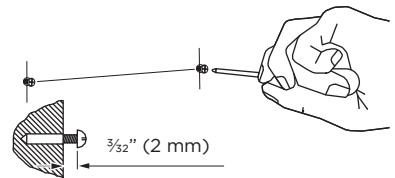
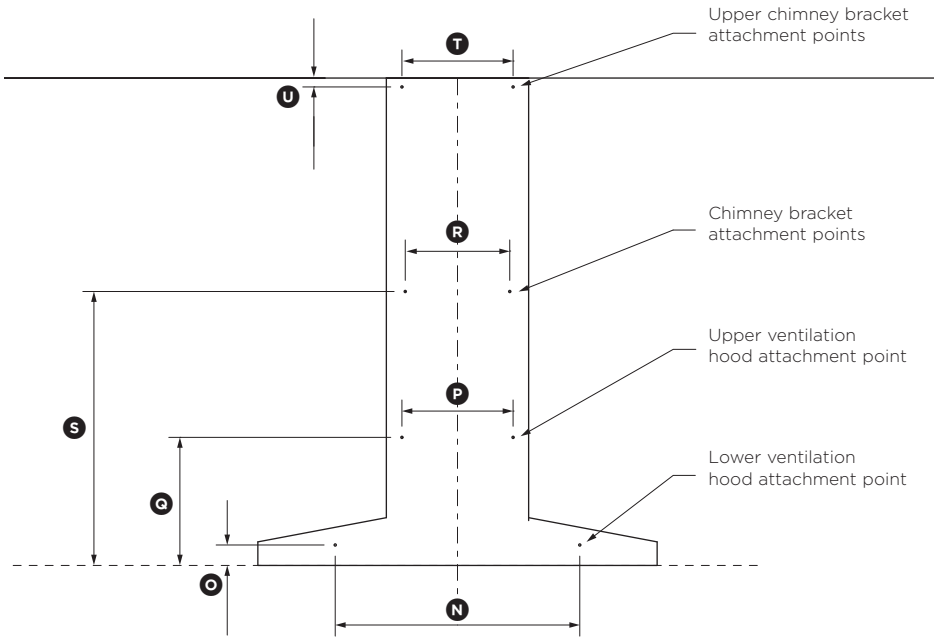

Fig.1
Fig.2
- Attach the chimney bracket and upper chimney bracket (if using the upper chimney) in the locations shown in Fig.2 (refer to page 13) and Fig.3 (refer to page 14). Use the  $1\frac{3}{16}$ " (30 mm) screws (and expansion plugs if attaching to masonry).
- Attach the upper ventilation hood mounting screws in the locations shown in Fig.2 (refer to page 13) and Fig.3 (refer to page 14). Using the  $1\frac{3}{16}$ " (30 mm) screws (and expansion plugs if attaching to masonry). Ensure that there is a  $\frac{3}{32}$ " (2 mm) gap between the screw head and the wall (Fig.1).